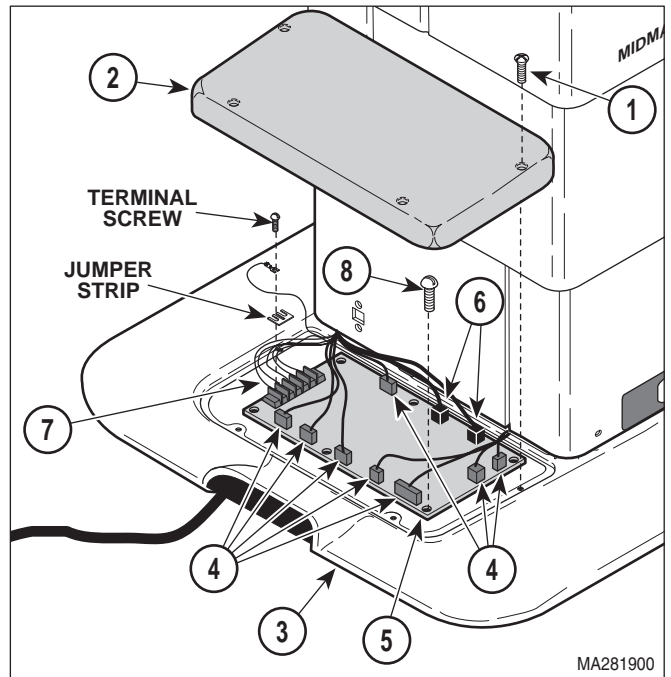

Figure 4-1. PC Control Board Removal / Installation
- (1) Unplug table power cord from wall outlet.
- (2) Remove four screws (1, Figure 4-1) and PC board cover (2) from base casting (3).
- (3) Tag and disconnect eight wire harnesses (4) from PC control board (5).
- (4) Tag and disconnect two modular cords (6) from PC control board (5).
- (5) Loosen five terminal screws; then tag and disconnect seven wires (7) from terminals of PC control board (5).
- (6) Remove six screws (8) and PC control board (5) from base casting (3).